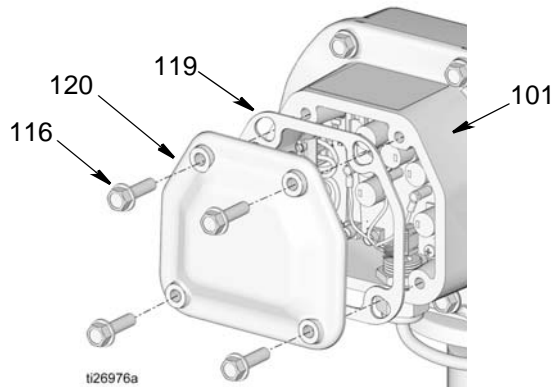

FIG. 2
3. Remove screws (116), control box seal (119) and control box cover (120) from gear housing box (101) (FIG. 2).